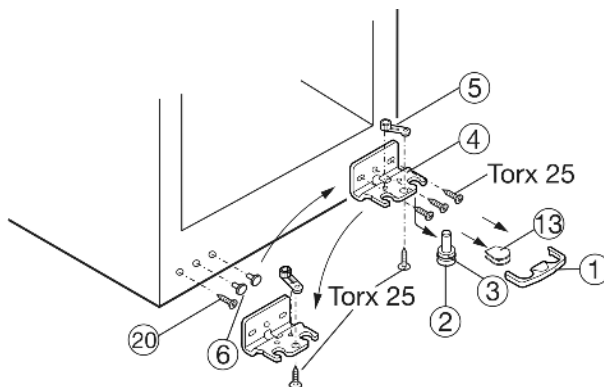

Fig. 4
- ▶ Draw safety lock Fig. 4 (1) forwards for removal.
- ▶ Remove the cover Fig. 4 (13).*
- ▶ Pull out the bearing pin Fig. 4 (2) downwards and forwards. In so doing, pay attention to the hinge bush Fig. 4 (3).
- ▶ Unscrew the turn hinge Fig. 4 (4).
- ▶ Unscrew the bearing part Fig. 4 (5), transfer it to the opposite hole in the turn hinge and screw it down again.
- ▶ Carefully lift out the plugs Fig. 4 (6) and insert them into the opposite side.
- ▶ Unscrew the screw Fig. 4 (20) and insert it into the opposite side.
- ▶ Screw the bearing bracket Fig. 4 (4) onto the new hinge side **tightly to at least 4 Nm** or retighten with the aid of a cordless screwdriver if necessary.
- ▶ Slightly tip the appliance backwards again and reinsert the bearing pin *Fig. 4 (2)* together with the hinge bush *Fig. 4 (3)*. The notch on the bearing pin must face forward.
- ▶ Place the cover *Fig. 4 (13)* on the opposite side.*